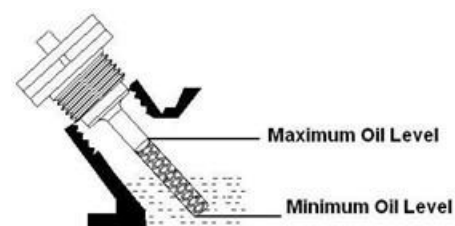

Fig. 18 - Oil Fill Opening, Dipstick and Oil Level
3. Slowly add more oil and repeat step 2 until the oil mark reaches to the top of dipstick (Fig. 18). Do not over fill the crankcase. Reinstall oil dipstick.